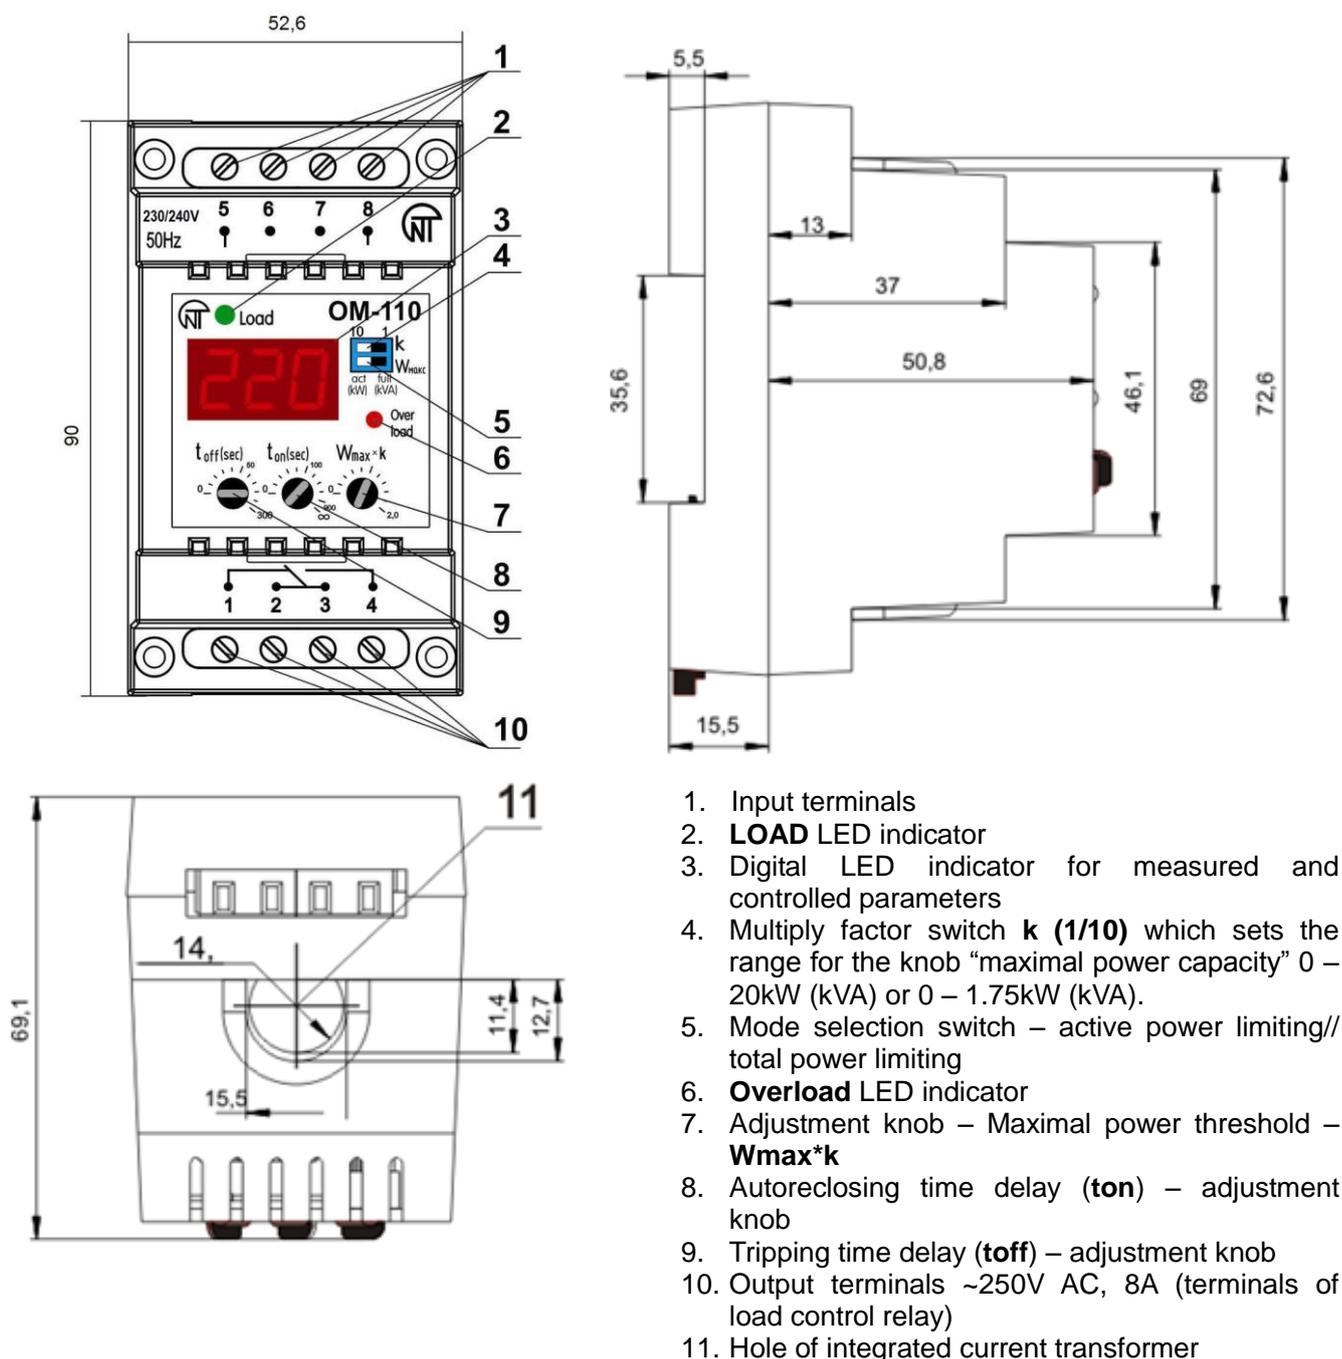

Figure 1 – Front panel and main knobs and controls
3.1.4 The wire of the circuit which should be under the device control must be inserted through the hole in the case of OM-110 (item 11; Figure 1). If the limiter is used as the load priority relay, pass the wire that supplies power to both loads (priority and non-priority) through the hole CT (it.11 Fig.1).
3.1.5 Next step is to set up the type of measured power using DIP-switch (item 5; Figure 1) and adjust the range for maximal power threshold values using the knob «10/1» (item 4; Figure 1).
3.1.6 Then set up the tripping time delay and reclosing time and value of overcurrent using adjustment knobs «Wmax*k», «toff», «ton» (items 7, 8, 9; Figure 1).
3.1.7 After all the connections are done it's necessary to turn ON the power supply and make precise adjustment of all the knobs according to the values shown on the digital LED display (item 3; Figure 1). OM-110 is ready for operation.
Autoreclosing time delay scale (item 8; Figure 1) is divided to the ranges 0-100 and 100-900 seconds
Tripping time delay scale (item 9; Figure 1) is divided to the ranges 0-50 and 50-300 seconds.
During twisting of any adjustment knob (items 7, 8, 9; Fig.1) value of adjusted parameter is showed on the digital indicator, in this case decimal dot will be in the low order.
On giving the power supply to the input terminals 230/240V 50Hz (item 1; Figure 1) within the readiness time of 0,8 sec the power load must be turned ON: output contacts 1-2 open, and contacts 3-4 close.
Simultaneously turns on LED indicator “LOAD” (item 2; Figure 1) and digital LED indicator (item 3; Figure 1) starts displaying power load being consumed by the load.
As soon as the power load reaches user adjusted threshold value for maximal power (kW or kVA) using the knob on the front panel and the range selector switch (item 4; Figure 1) then the red color LED “Overload” (item 6; Figure 1) and the tripping time delay - toff (item 9; Figure 1) countdown (adjustable from 0 to 300 seconds) starts, and the indicator in turns displaying the value of consumed power and the remaining time to cut off the load (in seconds).